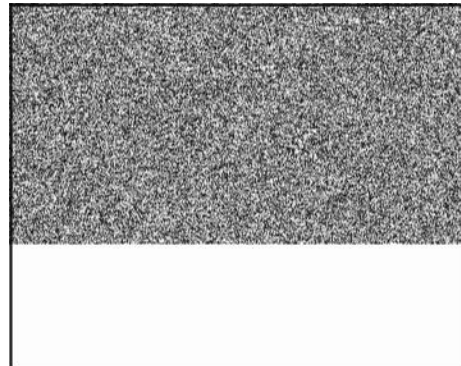

Figure 64
5. Lift the choke shaft up slightly and continue turning counterclockwise until the stop on the lever clears the spring perch. Push the shaft inward. When released, the choke shaft lever should rest on the spring perch as shown (Figure 64).